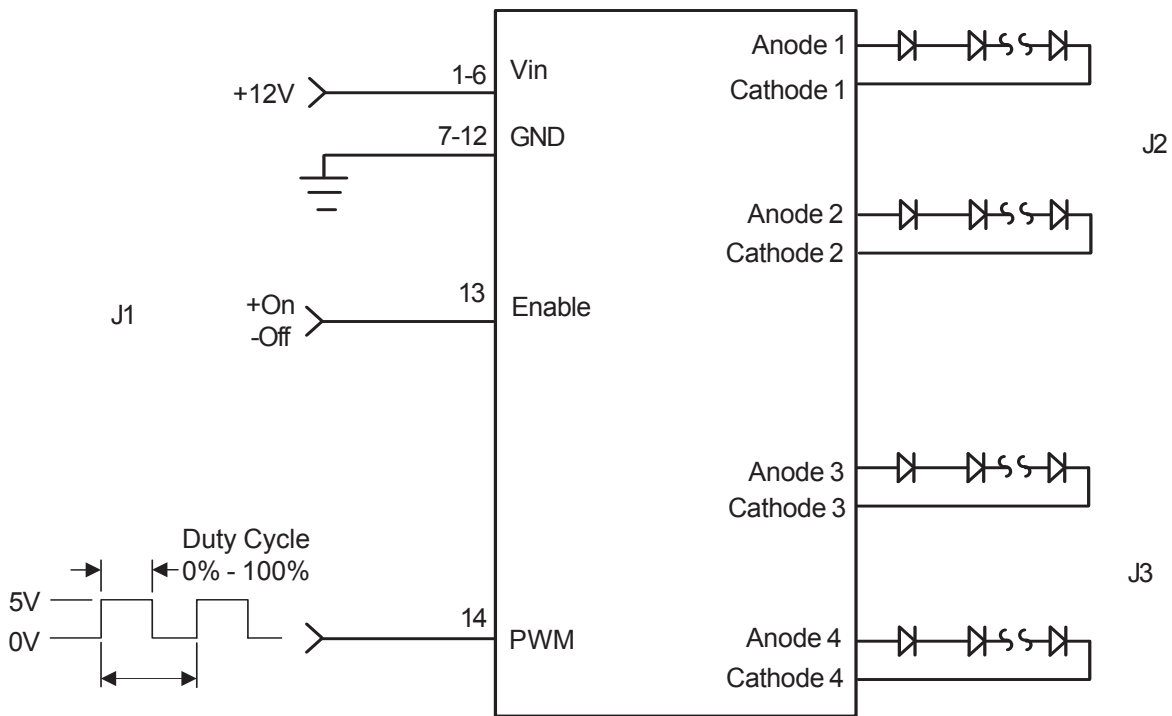

Figure 1
- OPERATION: External PWM configuration as shown in Figure 1 allows the user to control display brightness with an externally generated PWM signal. The user is responsible to provide the PWM signal. A dimming ratio up to 10,000:1 is possible with this configuration.